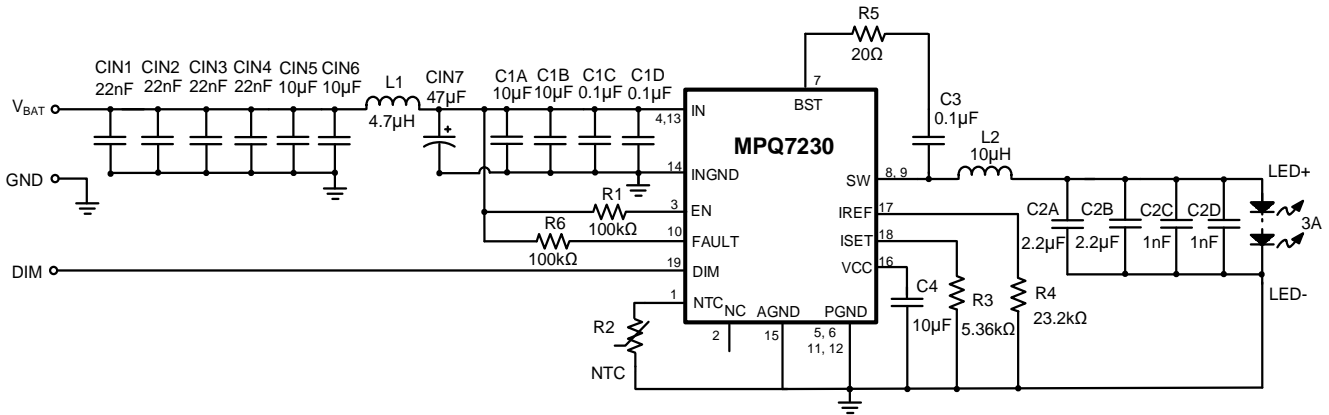

Figure 9: Buck Application Circuit ($I_{LED} = 3A$)
- 13) The recommended layout is based on Figure 9 on page 50.